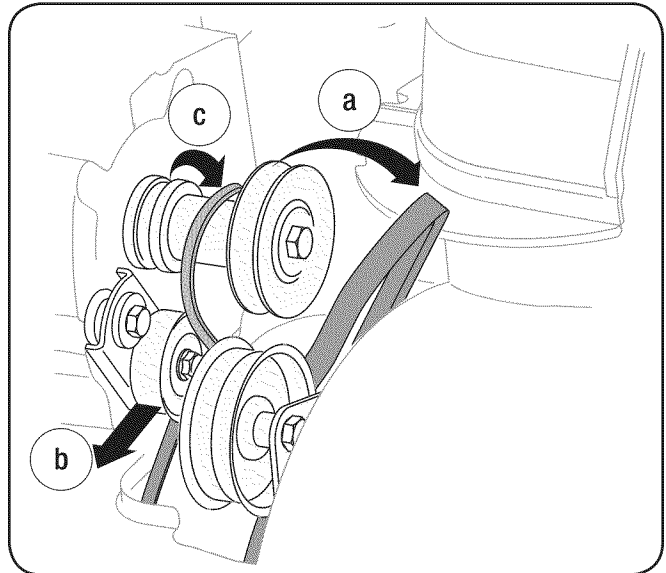

Fig. 7-6
- Remove the belt as follows. See Fig. 7-6: